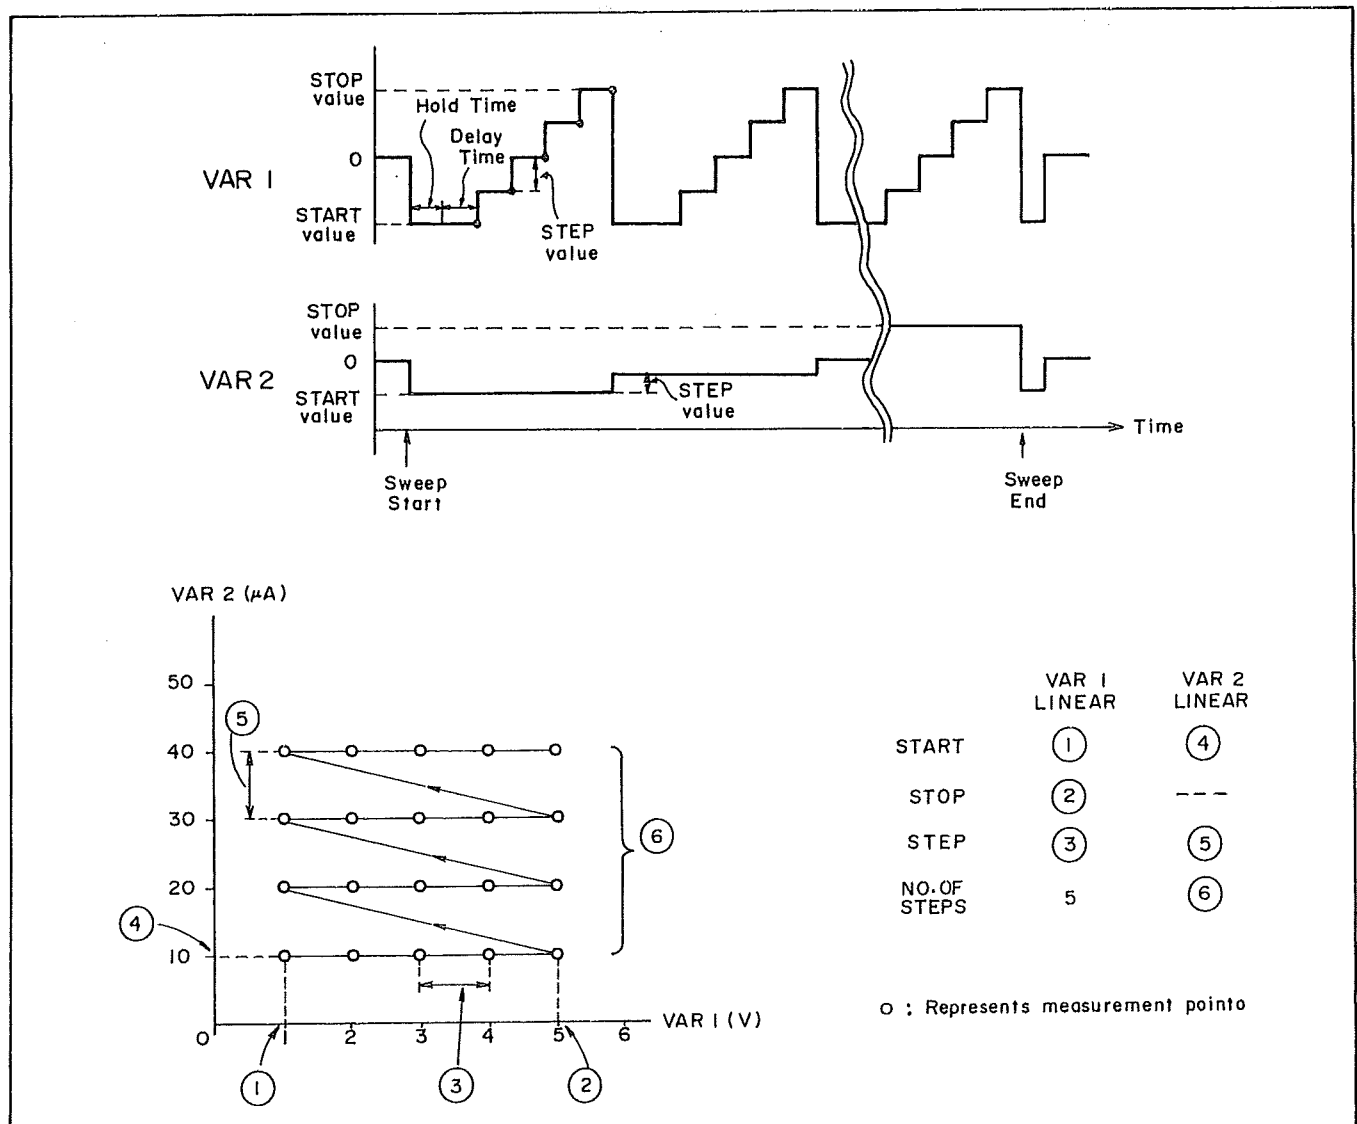

Figure 3-15. Relationship Between VAR1 and VAR2.
3-31. Of the six source channels (four SMUs, two voltage sources), three can be swept by specifying VAR1, VAR1', or VAR2 in the SOURCE FCTN field on the CHANNEL DEFINITION page. The remaining three source channels are either "not used" or are set to CONST source function. The VAR1 source channel is the main sweep channel and VAR2 and VAR1' are VAR1 dependent, as shown in Figures 3-15 and 3-16, respectively, and as described below :
At the completion of the VAR1 sweep, VAR2 is incremented or decremented by the specified STEP value (⑤ in Figure 3-15) and VAR1 is swept again. The total number of VAR1 sweeps is determined by the NO. OF STEPS (⑥
in Figure 3-15) specified for VAR2. VAR2 cannot be swept logarithmically. Also, VAR1 and VAR2 can have different source functions. START, STEP, and NO. OF STEPS must be specified.